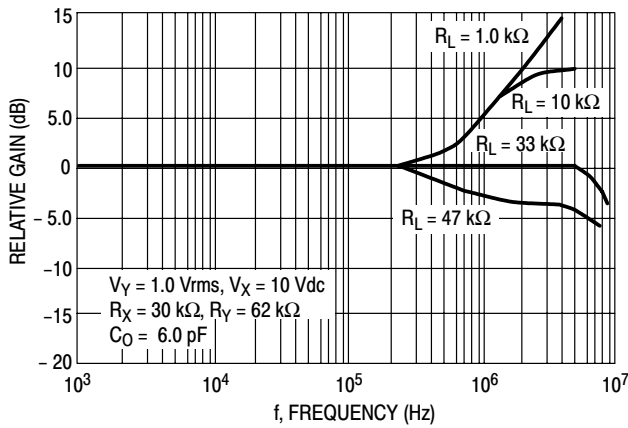
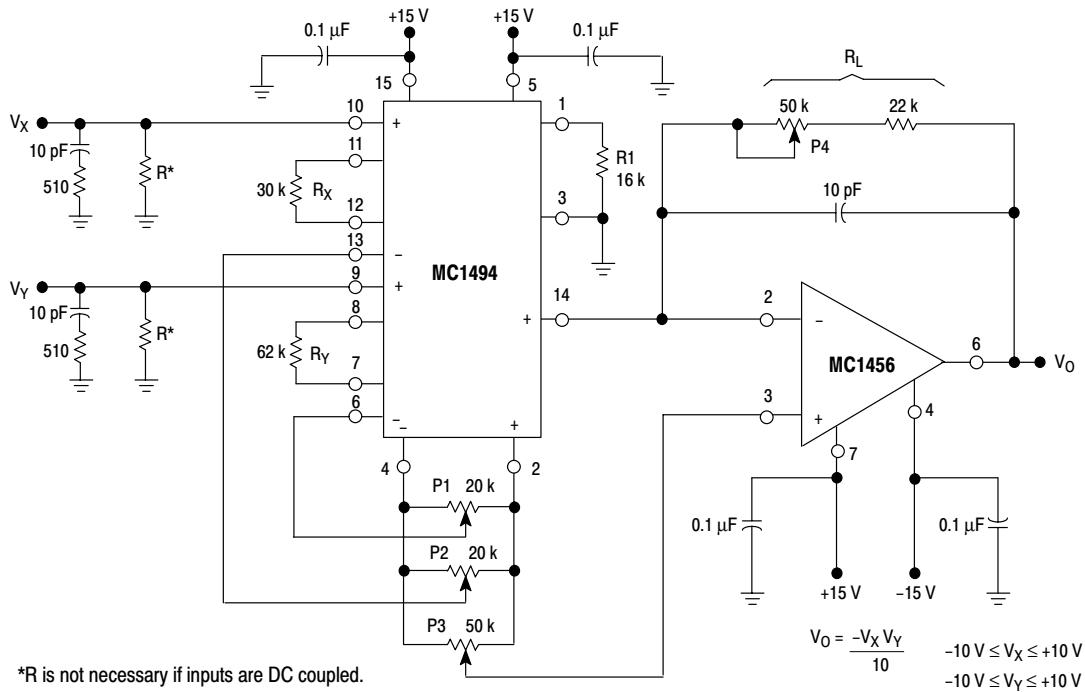
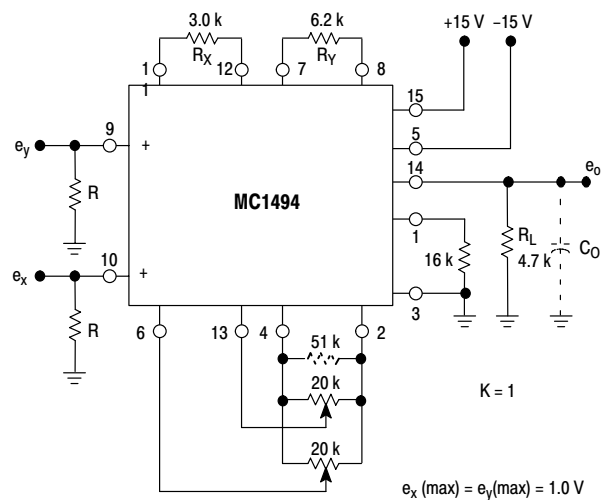

Figure 11. Frequency Response of Y Input versus Load Resistance
Figure 18. Typical Multiplier Connection
Figure 19. Wideband Multiplier
The output current can be easily converted to an output voltage by placing a load resistor R_L from the output (Pin 14) to ground (Figure 19) or by using an op amp as a current-to-voltage converter (Figure 18). The result in both circuits is that the output voltage is given by:
For low frequency operation the circuit of Figure 18 is recommended. For this circuit, $R_X = 30 \text{ k}\Omega$, $R_Y = 62 \text{ k}\Omega$, $R1 = 16 \text{ k}\Omega$ and, hence, $I_1 \approx 0.5 \text{ mA}$. Therefore, to set the scale factor (K) equal to 1/10, the value of R_L can be calculated to be:
Thus, a reasonable accuracy in scale factor can be achieved by making R_L a fixed 47 kΩ resistor. However, if it is desired that the scale factor be exact, R_L can be comprised of a fixed resistor and a potentiometer as shown in Figure 18.
The selection of R_L is arbitrary and can be chosen after resistors R_X and R_Y are found. Note in Figure 18 that R_Y is 62 k Ω while R_X is 30 k Ω . The reason for this is that the “Y” side of the multiplier exhibits a second order nonlinearity whereas the “X” side exhibits a simple nonlinearity. By making the R_Y resistor approximately twice the value of the R_X resistor, the linearity on both the “X” and “Y” sides are made equal. The selection of the R_X and R_Y resistor values is dependent upon the expected amplitude of V_X and V_Y inputs. To maintain a specified linearity, resistors R_X and R_Y should be selected according to the following equations:
The operational amplifier connection in Figure 18 is a simple but extremely accurate current-to-voltage
Since the MC1494 is capable of operation at much higher frequencies than the op amp, the frequency characteristics of the circuit in Figure 18 will be primarily dependent upon the operational amplifier.
The input offset adjustment potentiometers, P1 and P2 will be necessary for most applications where it is desirable to take advantage of the multiplier's excellent linearity characteristics. Depending upon the particular application, some of the potentiometers can be omitted (see Figures 19, 21, 24, 26 and 27).
The adjustment procedure for the circuit of Figure 18 is:
The MC1494 multiplier, like most linear ICs, requires a DC bias current into its input terminals. The device cannot be capacitively coupled at the input without regard for this bias current. If inputs V_X and V_Y are able to supply the small bias current ($\approx 0.5 \mu A$) resistors R can be omitted (see Figure 18). If the MC1494 is used in an AC mode of operation and capacitive coupling is used the value of resistor R can be any reasonable value up to 100 k Ω . For minimum noise and optimum temperature performance, the value of resistor R should be as low as practical.
When long leads are used on the inputs, oscillation may occur. In this event, an RC parasitic suppression network similar to the ones shown in Figure 18 should be connected directly to each input using short leads. The purpose of the network is to reduce the "Q" of the source–tuned circuits which cause the oscillation.
For AC operation, such as balanced modulation, frequency doubler, AGC, etc., the op amp will usually be omitted as well as the output offset adjust potentiometer. The output offset adjust potentiometer is omitted since the output will normally be AC coupled and the DC voltage at the output is of no concern providing it is close enough to zero volts that it will not cause clipping in the output waveform. Figure 19 shows a typical AC multiplier circuit with a scale factor $K \approx 1$. Again, resistor R_X and R_Y are chosen as outlined in the previous section, with R_L chosen to provide the required scale factor.
The bandwidth of the MC1494 is primarily determined by two factors. First, the dominant pole will be determined by the load resistor and the stray capacitance at the output terminal. For the circuit shown in Figure 19, assuming a total output capacitance (C_O) of 10 pF, the 3.0 dB bandwidth would be approximately 3.4 MHz. If the load resistor were 47 k Ω , the bandwidth would be approximately 340 kHz.
Secondly, a “zero” is present in the frequency response characteristic for both the “X” and “Y” inputs which causes the output signal to rise in amplitude at a 6.0 dB/octave slope at frequencies beyond the breakpoint of the “zero”. The “zero” is caused by the parasitic and substrate capacitance which is related to resistors R_X and R_Y and the transistors associated with them. The effect of these transmission “zeros” is seen in Figures 11 and 12. The reason for this increase in gain is due to the bypassing of R_X and R_Y at high frequencies. Since the R_Y resistor is approximately twice the value of the R_X resistor, the zero associated with the “Y” input will occur at approximately one octave below the zero associated with “X” input. For $R_X = 30 \text{ k}\Omega$ and $R_Y = 62 \text{ k}\Omega$, the zeros occur at 1.5 MHz for the “X” input and 700 kHz for the “Y” input. These two measured breakpoints correspond to a shunt capacitance of about 3.5 pF. Thus, for the circuit of Figure 19, the “X” input zero and “Y” input zero will be at approximately 15 MHz and 7.0 MHz respectively.
From this brief discussion, it is evident that for AC applications; (1) the value of resistors R_X , R_Y and R_L should be kept as small as possible to achieve maximum frequency response, and (2) it is possible to select a load resistor R_L such that the dominant pole (R_L , C_O) cancels the input zero (R_X , 3.5 pF or R_Y , 3.5 pF) to give a flat amplitude characteristic with frequency. This is shown in Figures 11 and 12. Examination of the frequency characteristics of the “X” and “Y” inputs will demonstrate that for wideband